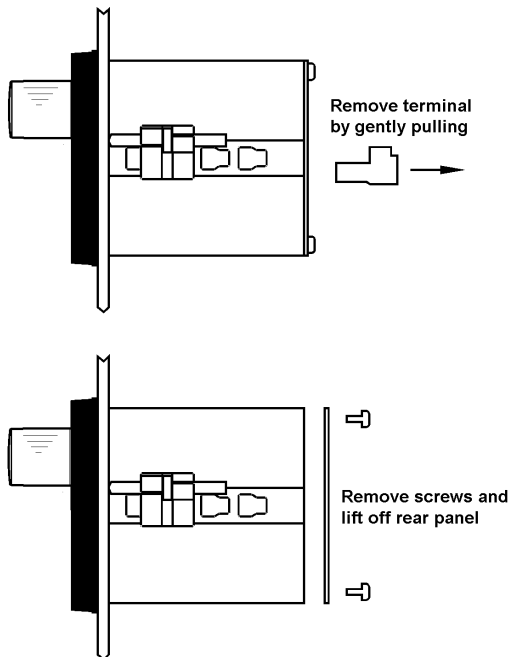

Fig 8 Removal of rear panel
The display is calibrated by plug-in links and two multi-turn potentiometers which are accessible through holes in the rear panel. To gain access to the links the rear panel must be removed as shown in Fig 8.
- a. Remove the rear terminal block(s) and the rear panel as shown in Fig 8.